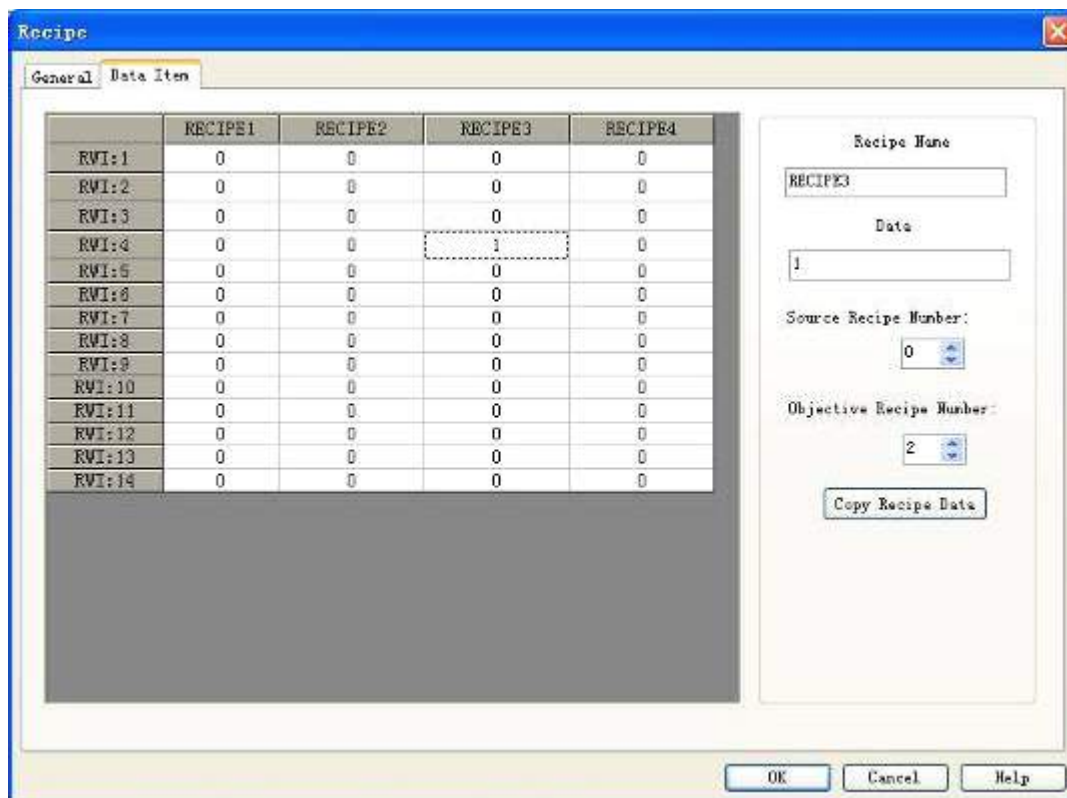

Figure 7-26 Function of recipe data copy
1. Establish recipe configuration according to above mentioned method, as shown in figure 7-26 below.